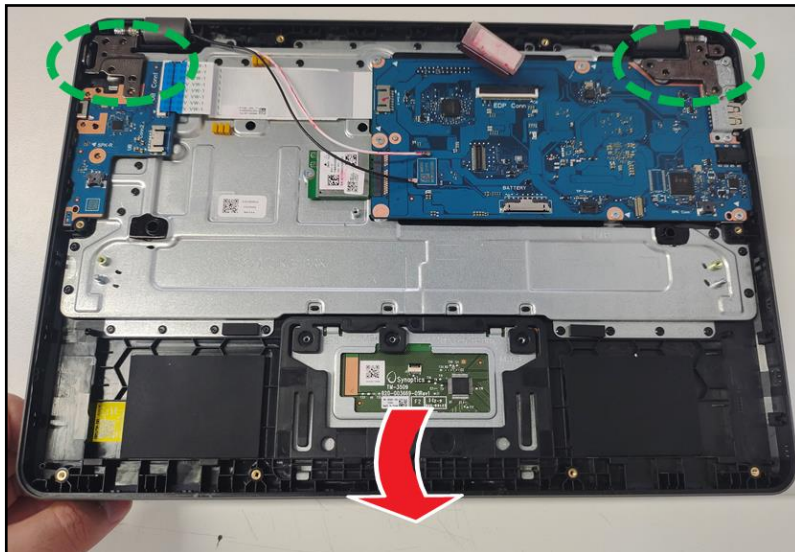

Figure 3-92. Replacing the LCD Module
2. By holding the I/O brackets, close the top assembly (Figure 3-92).